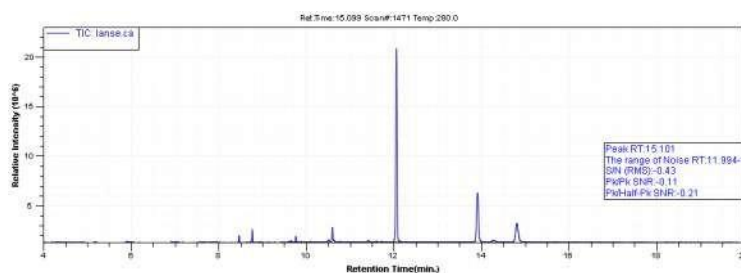

Figure 7-22 Signal to Noise Ratio Calculating
- (6)  Display log: click to hide or display the log area.
- (7)  Display component results: click to display or hide component table.
- (8)  Display the previous mass spectrum: click to display the previous one mass spectrum according to the current retention time. The mass spectrum will be displayed in the preview window if the preview window is already open; otherwise a new window will be open with the mass spectrum in it.
- (9)  Display the next mass spectrum: click to display the next one mass spectrum according to the current retention time. The way of display is similar to the above.
- (10)  Annotation switch, click to switch the peak point to display the peak area.
- (11)  Annotation of area, time, name and ratio.
- (12)  Arrangement of data windows: layered, vertical, horizontal.
- (13)  Signal to Noise Ratio: click the icon, select a segment of baseline as the noise range, move the mouse pointer to the peak point, and then the Signal to Noise Ratio of the peak will be displayed, as shown in Figure 7-22.